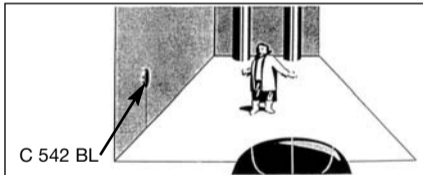

Fig. 4: Mounting the microphone on a boundary.
- Refer to fig. 4. Alternatively, you may use an acoustically reflective wall (covered with no wallpaper or softboard) near the sound source.